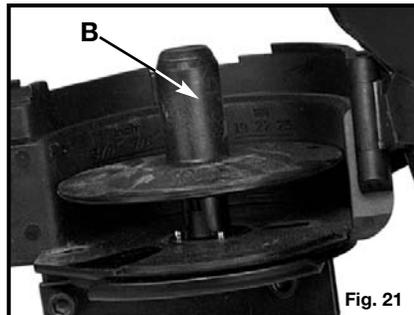

Fig. 21
3. Adjust nail support (B) Fig. 21, for desired nail length: the nail support can be lifted and rotated to three different positions that provide support for different length roofing nails. The lowest position is used for $1\frac{3}{4}$ " nails, the center position is used for $1\frac{1}{4}$ " and $1\frac{1}{2}$ " nails, and the upper position is used for $\frac{7}{8}$ " and 1" nails. **Note:** $\frac{3}{4}$ " nails are not available for this tool.